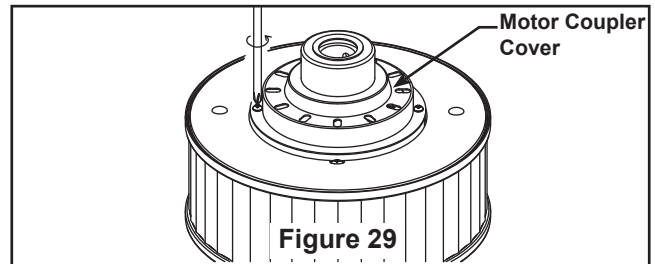

Figure 29
- ☐ 1. Remove motor coupler cover by unscrewing the two screws. (Figure 29)